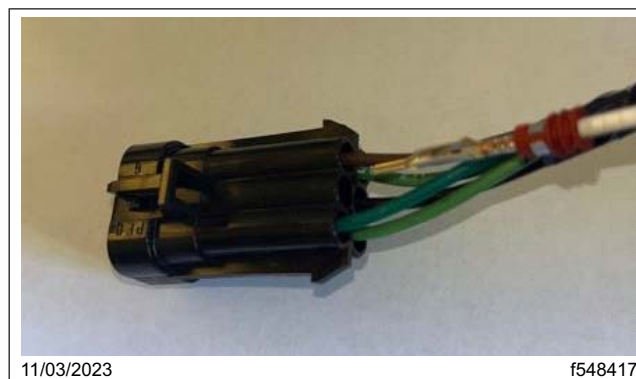

Fig. 79, Inserting the Wire into the Open Cavity E of the Plow Light Connector
- 36.5 Insert the wire marked 'left' into the empty cavity (cavity E) of the driver-side plow light connector. Insert the wire marked 'right' in the empty cavity (cavity E) of the passenger-side plow light connector. See Fig. 79.